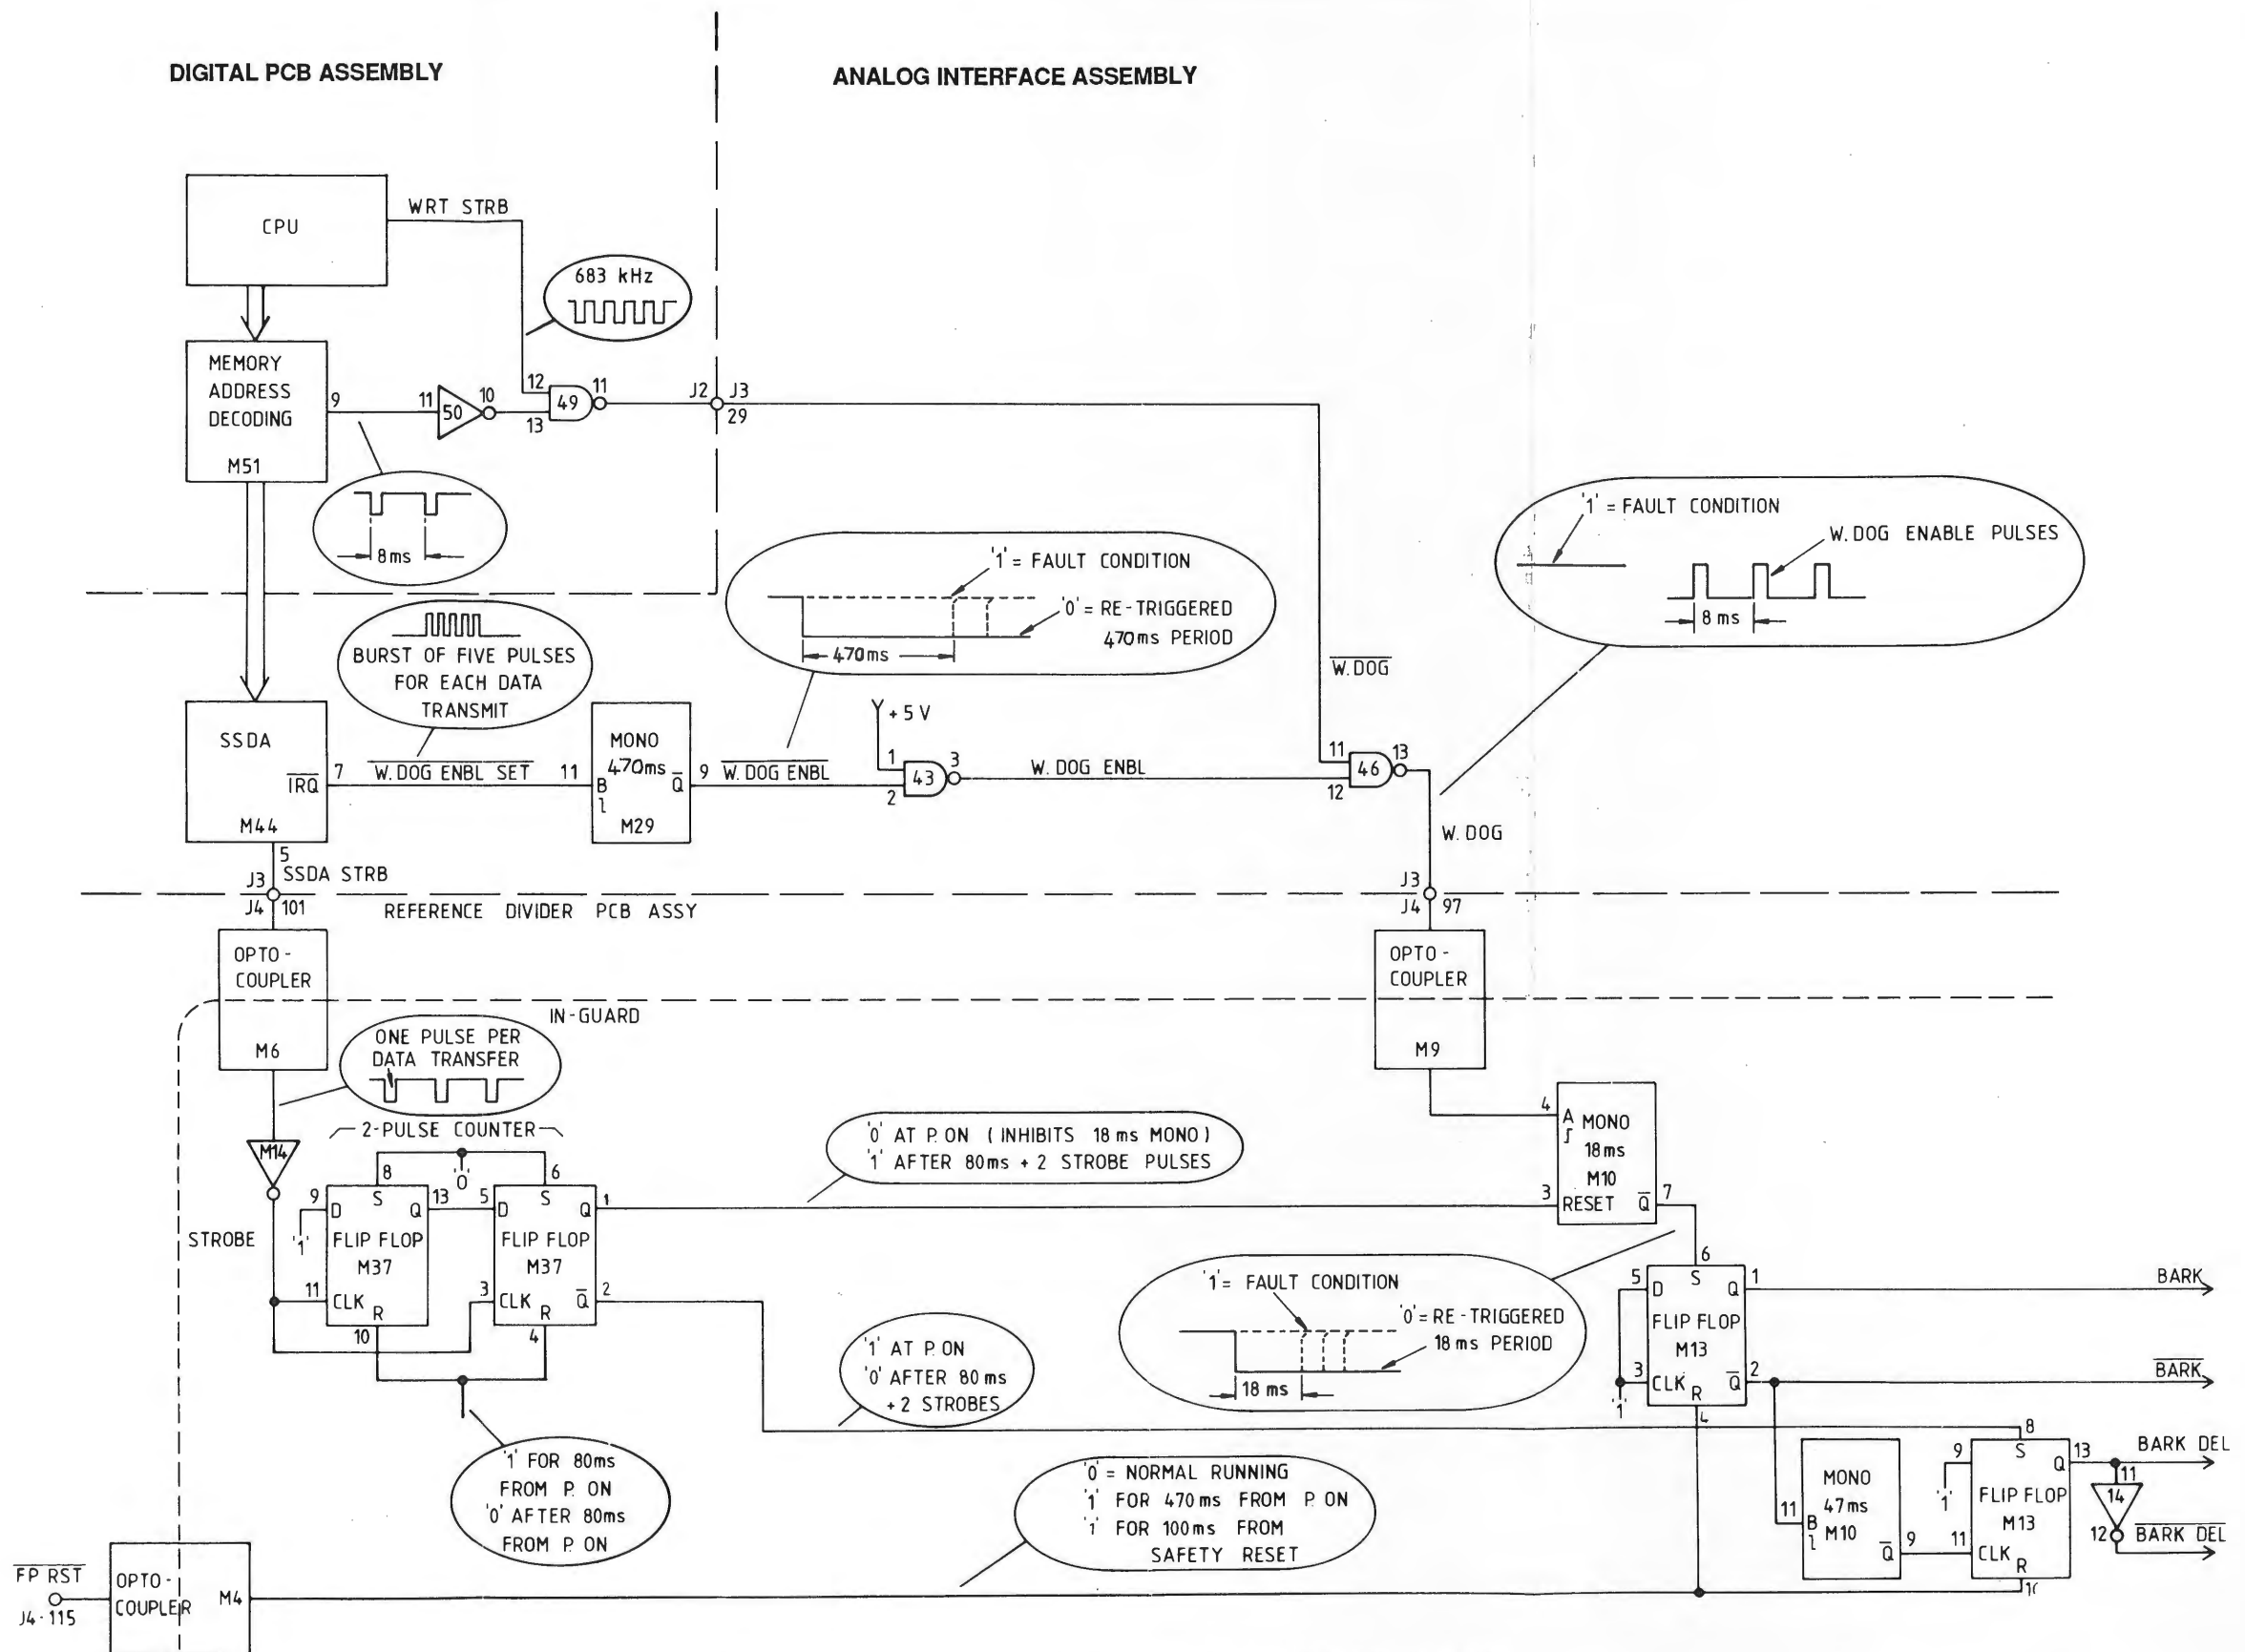

FIG. 6.17 WATCHDOG CIRCUITRY - SIMPLIFIED BLOCK DIAGRAM
6.4.6 SAFETY MONITOR (WATCHDOG) (Fig.6.17)
6.4.7.4 Malfunction (Fig 6.17)